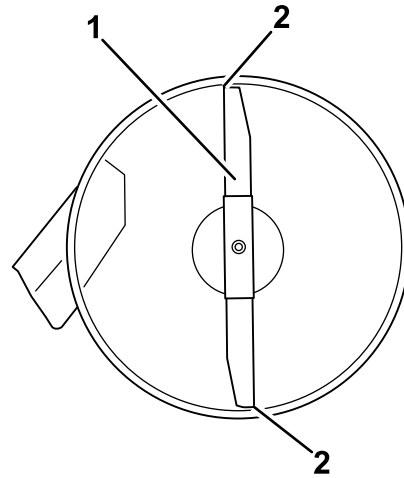

Figure 54
- Carefully rotate the blades so they are facing front to rear (Figure 54).
- Measure from the tip of the front blade to the flat surface and the tip of the rear blade to the flat surface (Figure 54). If the front blade tip is not 1/16-5/16 inch (1.6-7.9 mm) lower than the rear blade tip, adjust the front locknut.
8. After adjustment, check the front-to-rear slope again. Continue adjusting the nut until the front blade tip is 1/16-5/16 inch (1.6-7.9 mm) lower than the rear blade tip (Figure 54).